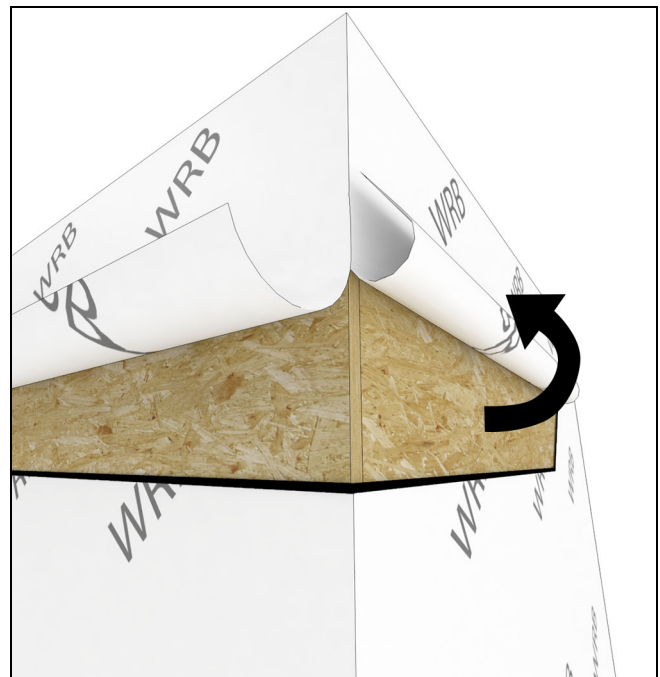

Figure 6
5. Flip the top flaps up and tack in place temporarily. See Figure 6.